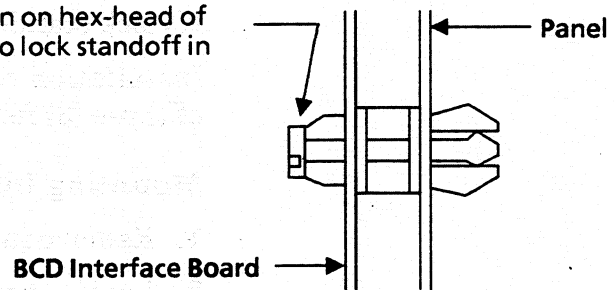

Figure 3 – Board Installation
4. Drill four (4) - $\frac{1}{4}$ " (6.35mm) holes at the locations marked in the previous step.
6. Install the board onto the standoffs and lock in place. Refer to Figure 3.